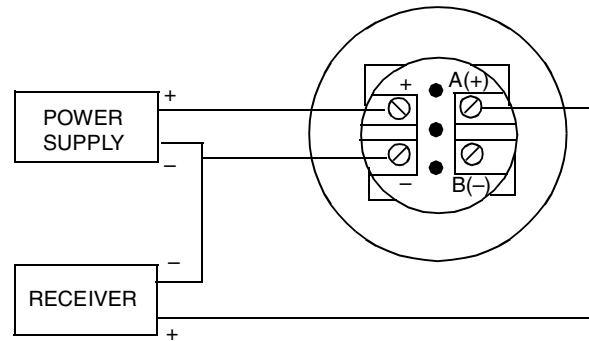
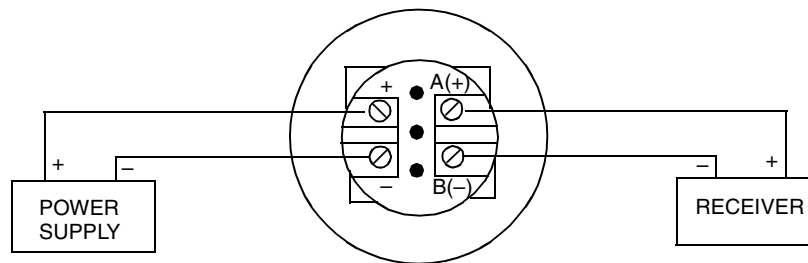
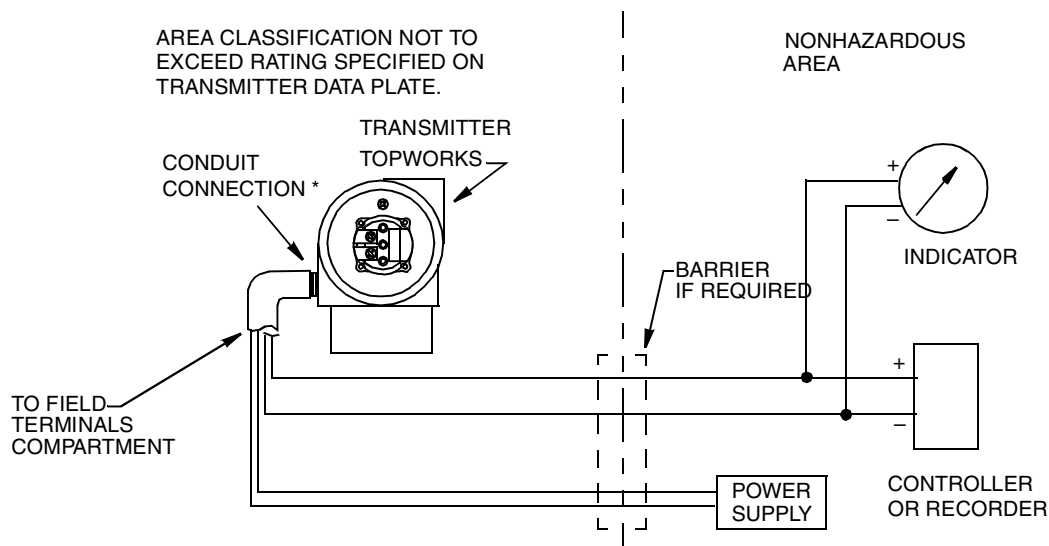

Figure 22. Three-wire Connection
Figure 23. Four-wire Connection
Figure 24. Loop Wiring (four-wire connection shown)
For relatively short wiring runs having low resistance, three-wire connections as shown in Figure 22 can be used to minimize wiring costs. However, a voltage drop in the common lead carrying the power supply current causes an error in the 1 to 5 V dc signal.
For wiring runs with high resistance (due to long lengths or other reasons) or for maximum accuracy, a four-wire connection as shown in Figure 23 can be used to provide input-output isolation. With four-wire configuration, voltage drop in the power supply loop does not affect measurement accuracy.
6. Connect the power supply and receivers (such as controllers, recorders, indicators) as shown in Figure 22 or Figure 23. Typical loop wiring is shown in Figure 24.